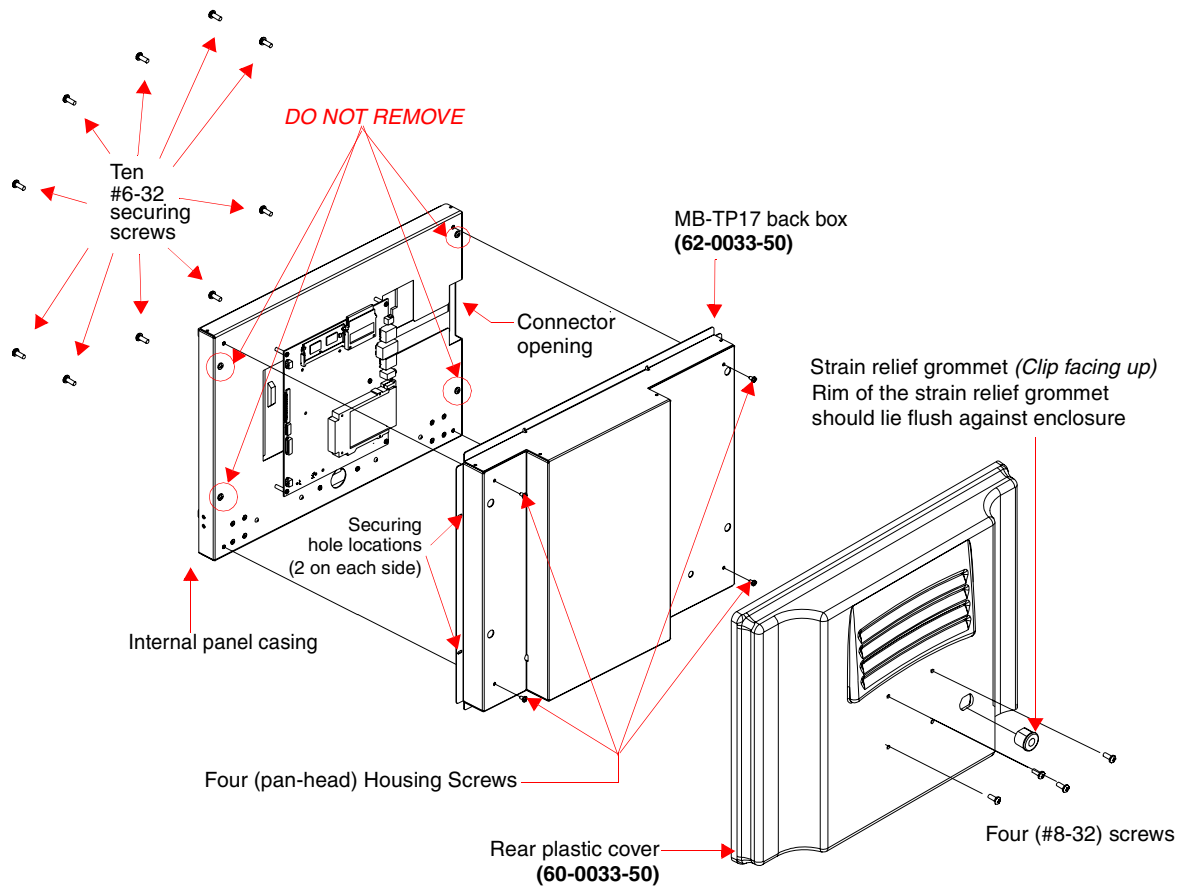

FIG. 52 Location of the attachment screws on the NXD back box and VESA housing
3. Re-install and secure the four pan-head Housing Screws into their pre-drilled holes along the edges of the MB-TP17 back box (FIG. 52) and secure them using a grounded Phillips-head screwdriver.
4. Slide the grommet along the cable and securely insert it into the opening on the rear plastic cover (FIG. 52).
8. Insert and secure the ten #6-32 securing screws into their pre-drilled holes along the edges of the NXD unit (FIG. 52). This step secures the NXD unit to the rim of the rear plastic cover.